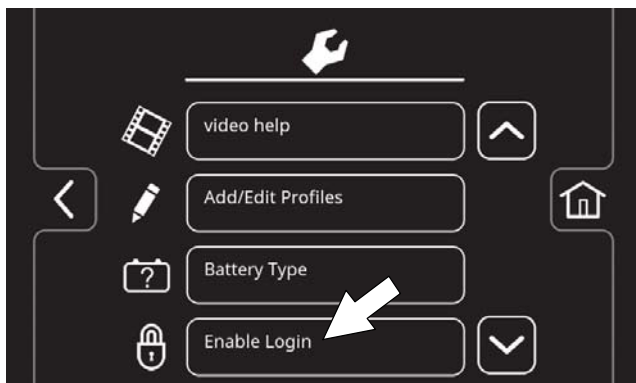

FIG. 172
4. Press the Enable Login button (Figure 172). The Enable button will change from Enable Login to Disable Login.